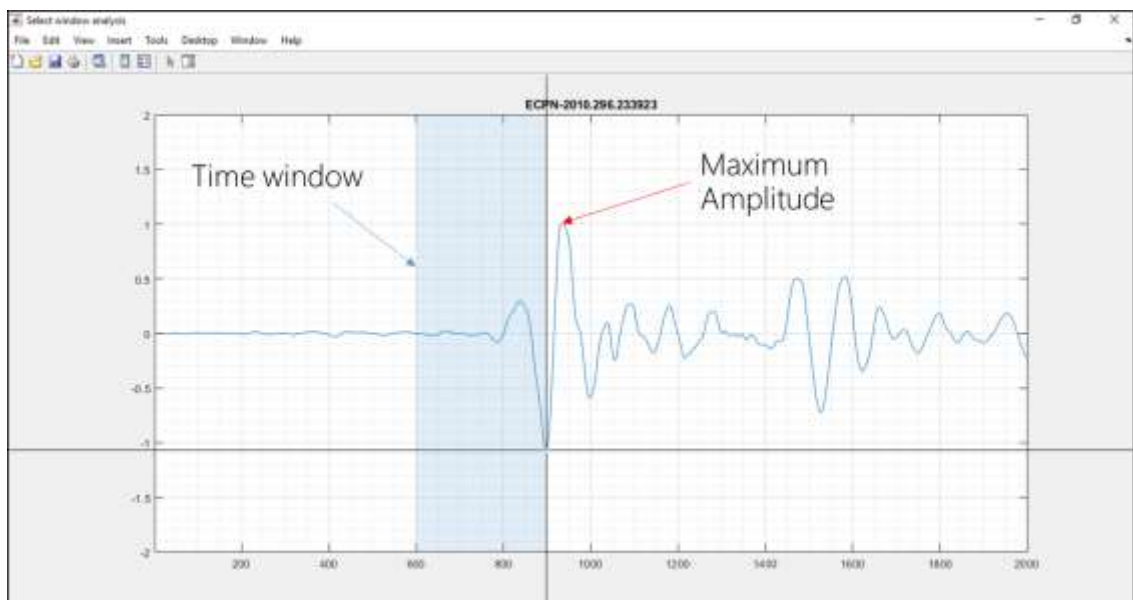

Fig.20. Example of the manual selection of the analysis window (2.5 seconds) on LP waveform.
- The supplementary routines. You can choose different way to process the data by clicking on the pop menu. The “Continuous” mode applies the Semblance method over time windows sliding along the traces. The Semblance grids computed on all analysis windows are averaged obtaining one composite grid for each Input trace. The “Auto-Discrete” mode rather performs the method over one temporal window, that is selected on the basis of an automatic routine. In the latter, the upper limit of the window is retrieved through the picking of a “down” phase onset starting from the time position of the maximum amplitude of the signal (see the example in the Fig. 20). The “Man-Discrete” mode is very similar to the last, except for the picking routine. In fact, you can set manually the upper limit of the analysis window through the dedicated interface (Fig. 20). In this latter case, you can move the cursor to your desired location and press a mouse button allowing to identify the respective time coordinate.
- The supplementary routines. You can select different modalities for the data processing by clicking on the pop menu. The "Continuous" mode performs the method over time windows sliding along the signals. The Radial Semblance valued obtained for all temporal windows are averaged into unique grid. The "Auto-Discrete" mode rather uses one analysis window selected through an automatic routine that returns its upper limit. This process consists in the picking of a "down" phase onset from the temporal position of the maximum amplitude of the signal (see the example in the Fig. 20). The "Man-Discrete" mode is very similar to the last, except for the picking routine. In fact, the upper limit of the analysis window is set through the dedicated interface (Fig. 20), in which you can move the cursor to identify the desired x-coordinate.